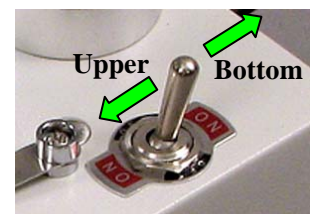

Fig.2
- 2) Push or pull the switch bar to the direction as shown in Fig.2 to turn on the upper light or bottom light.